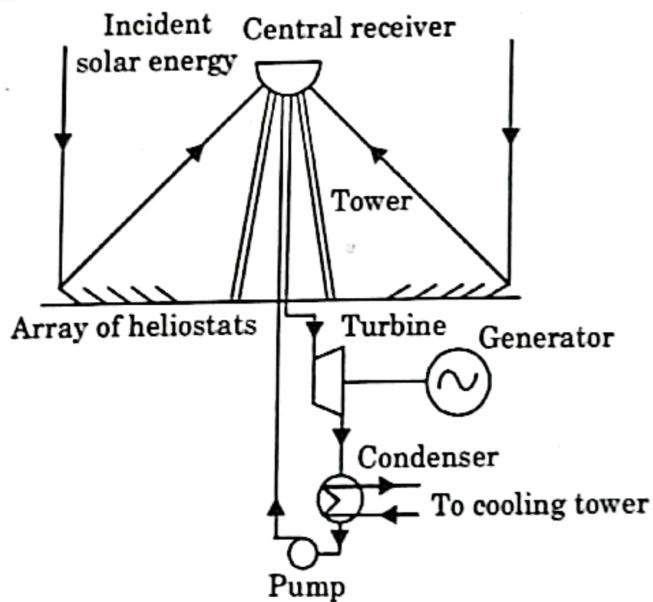

Fig. 2.18.3. Central receiver power plant.
3. The array is provided with a tracking control system that focuses beam radiation towards the receiver as shown in Fig. 2.18.3.